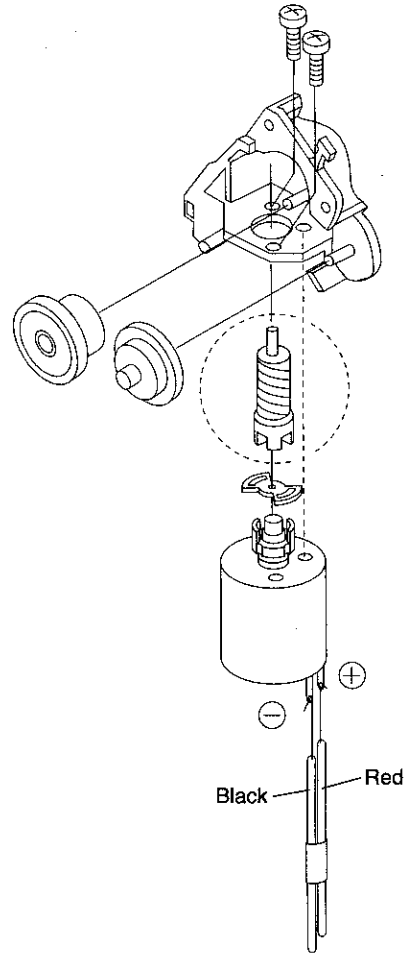

Figure 4-44.
- 1 Take out the old loading motor. Place a replacement loading motor as shown above (figure 4-44.).